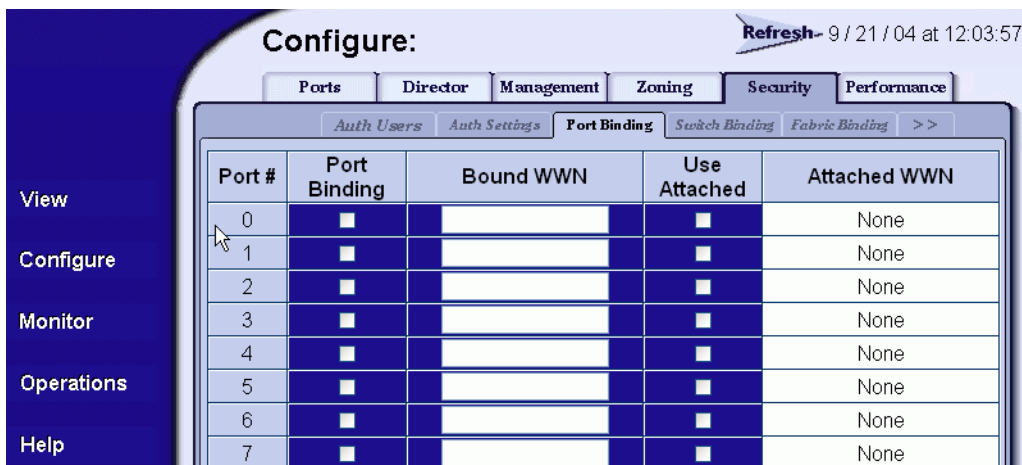

Figure 2-16 Configure Panel (Security Page with Port Binding Tab)
1. At the *Configure* panel, click the *Port Binding* tab. The *Security* page displays with the *Port Binding* tab selected (Figure 2-16).